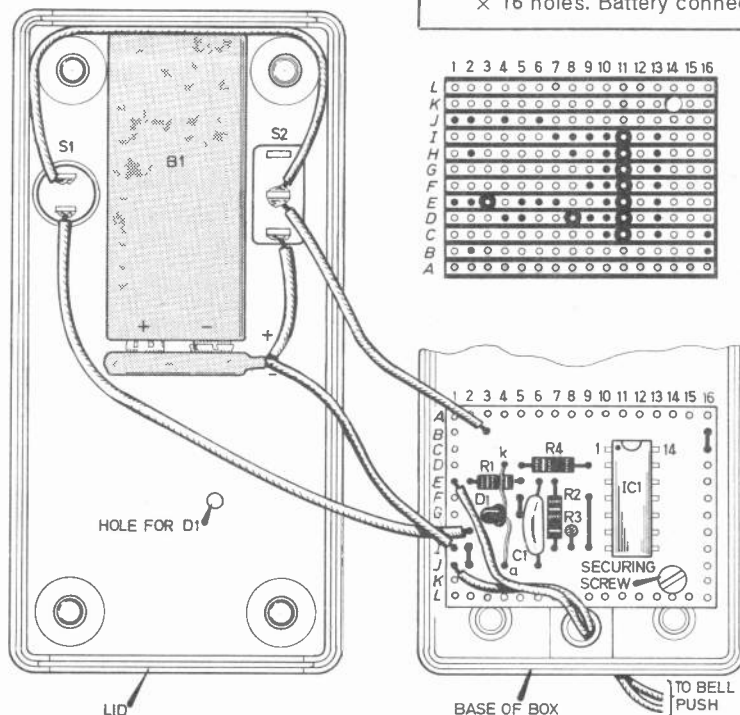

Fig. 2. Interior view of box showing assembly of parts and wiring between lid and base of box. Top right: underside view of stripboard.
The prototype was built in a Vero box measuring about 45 x 100 x 25mm. The components, with the exception of S1 and S2, are all mounted on a piece of 0.1 matrix stripboard measuring 1.75 inches x 1.25 inches approximately (12 strips by 16 holes). Component arrangement and breaks in copper strips are shown in the diagram Fig. 2.
- S1 2-pole, 6-way switch (see fig.2.)
A metal box 165 x 65 x 40mm is used to house the unit. Transistor TR2 is mounted on the side of the box itself using insulating bushes and mica washers and the remainder of the components are wired between a five-way tag strip and S1 as shown in Fig. 2.
Fig. 2. Layout of components, interwiring and front panel details. Note that S1 consists of one section of a 2 pole-6 way rotary switch with two positions unused.